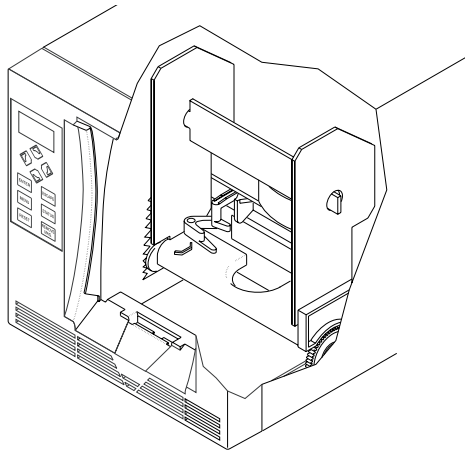

Figure 7-6 Proper position of shipping braces
10. Insert the free end of the cross-brace into the remaining side support. The shipping braces should be positioned as shown in **Figure 7-6**.